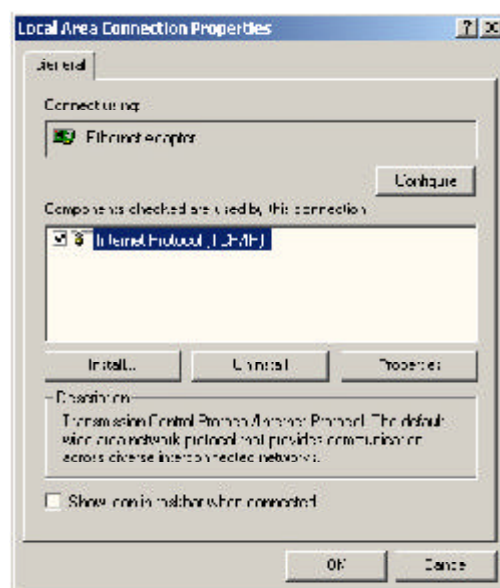

Fig. 2.1
Step 2 Select **Internet Protocol (TCP/IP)** and click **Properties**. See Fig. 2.1